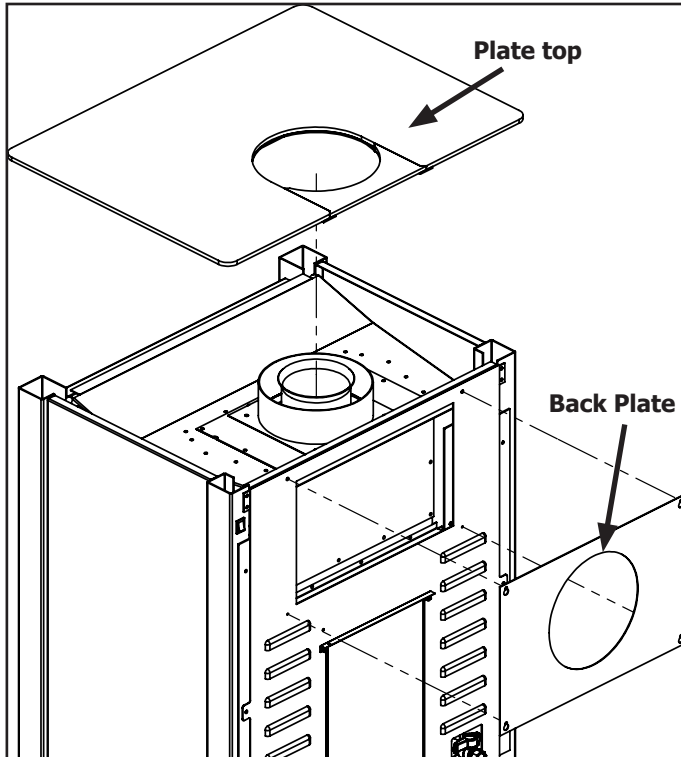

Figure 25: Vent Conversion - Step 1
Step 1: Using a T20 screwdriver loosen the four screws retaining the back plate and unhook it. Then remove the plate top by simply lifting up as shown in Figure 25.